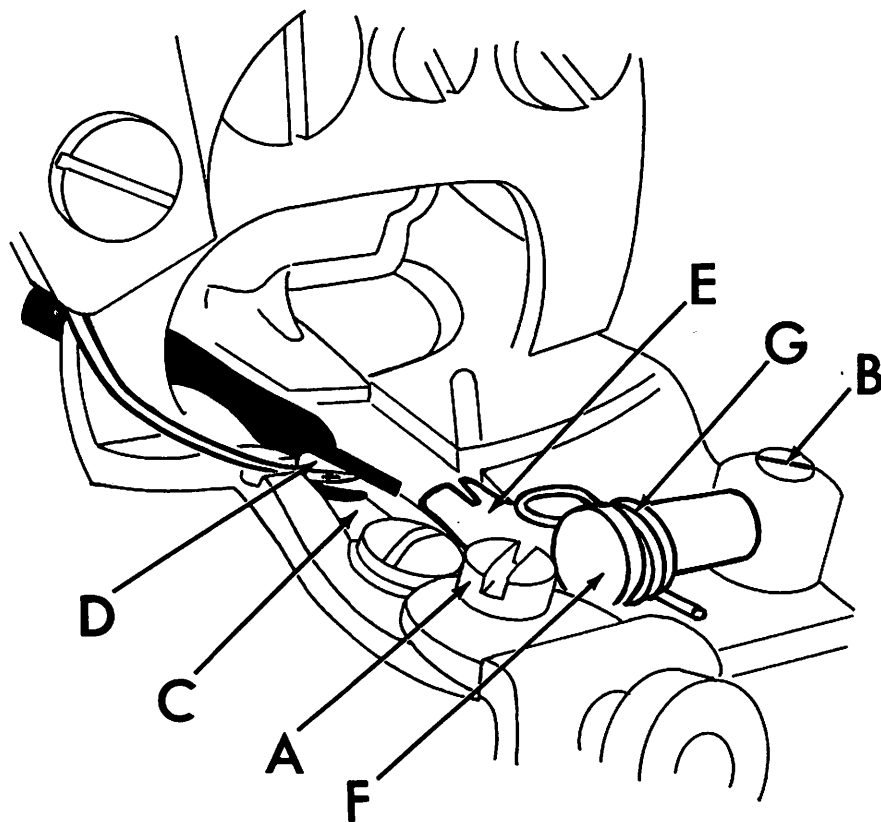

FIGURE 8
1. The shoe, (item "E" in Figure 8), also known as a cloth retainer, normally will not require replacement. However, in the event of wear due to the particular fabrics being used, or if the shoe or spring suffers any damage, they may be readily replaced.
2. The first step is to remove the complete front guide assembly by unscrewing the front guide holder attaching screw (item "A" in Figure 8). Next loosen the shoe pin lock screw (item "B" in Figure 8) and slide out the shoe pin (item "F"), shoe and retaining spring (item "G"). Before removing these components it is advisable to note the manner in which the spring is assembled so that it may be reinstalled in the same way.
6. Once the looper is timed with respect to the needle as outlined in paragraphs 2 thru 5 above, slowly turn the handwheel in a direction away from the operator, until the looper approaches the edge of the looper slot (Point "C" in Figure 8) in the presserfoot. At this point make sure the small prong of the looper clears this edge. If it does not clear, adjust the eccentric block as outlined in paragraph 5 until the interference is eliminated.
7. Continue turning the handwheel away from the operator until the point of the needle starts to enter the area in between the looper prongs. (Refer to Point "D" in Figure 8). If the needle strikes the crotch of the looper, the looper has generally been set too far forward. Check to see if the looper has been inserted into the clamp as far as it will go. It should be inserted until the shoulder on the looper is stopped on the clamp. If this check is satisfactory, recheck the distance from the center of the looper rod fork pin to the rear face of the looper rod ball. Refer to paragraph 4 and reset if necessary. If neither of the above two measures corrects the problem, it is possible that the needle lever may be set too low and requires adjustment.